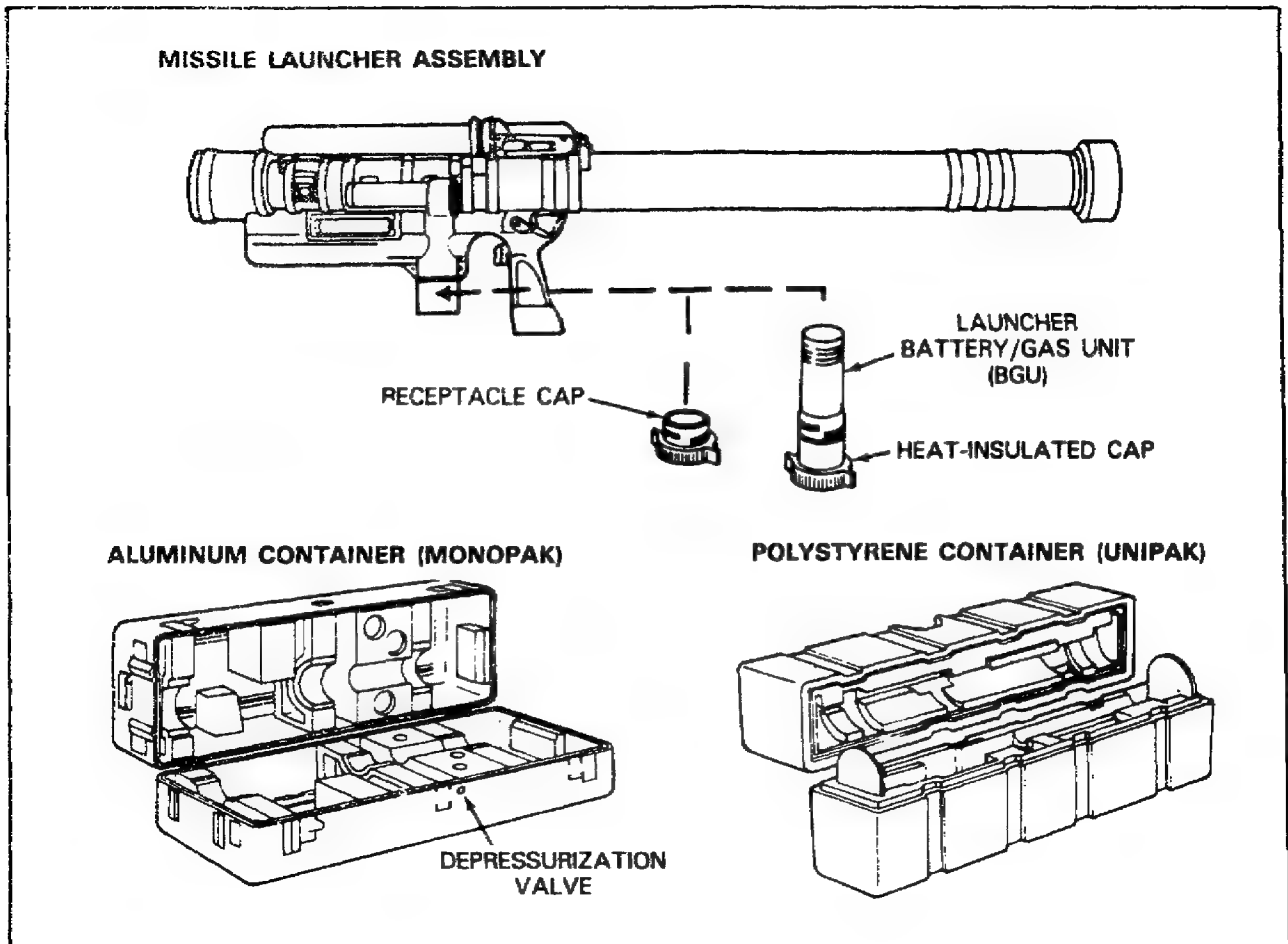

Figure 79. Redeye Air Defense Guided Missile.
**Redeye.** The Redeye (Figure 79) is a lightweight air defense guided missile. It is used by forward area troops for defense against low-flying aircraft. It is shoulder-launched from a disposable fiberglass launcher.